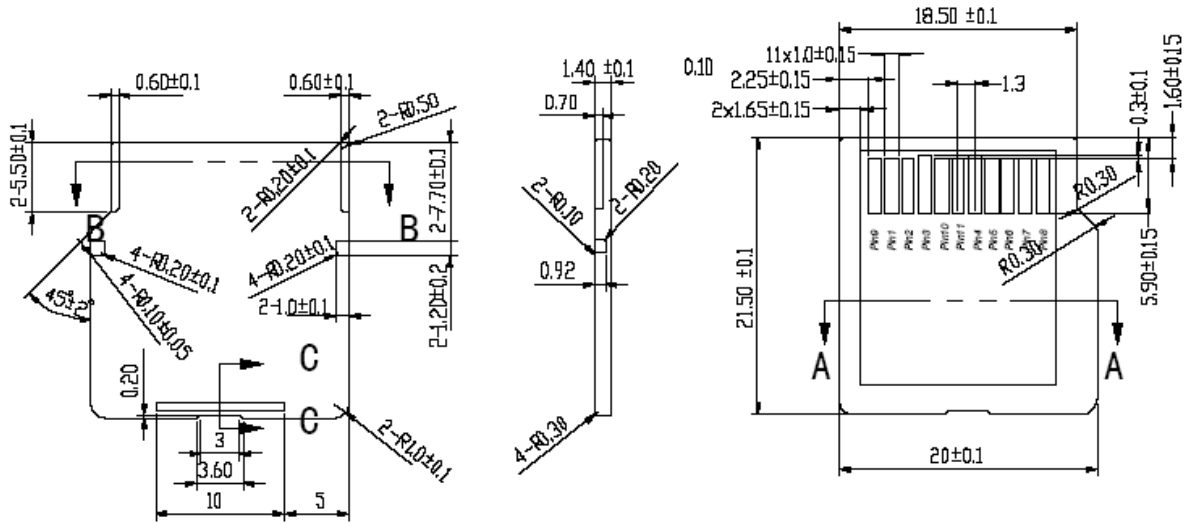

Fig 2 – miniSD Card Dimensions
- Fig 2 - miniSD Card Dimensions